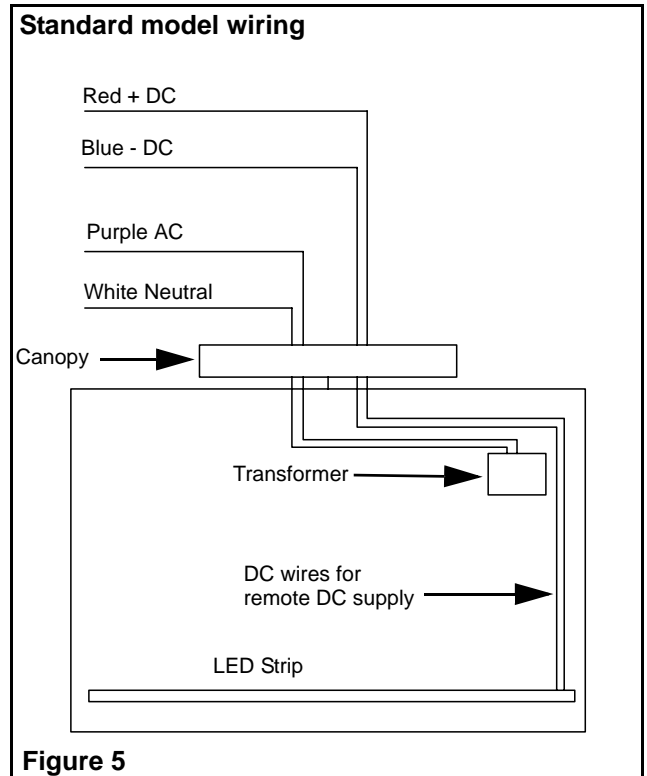

Figure 5
- h. Make the proper connection. In standard unit, the system can accept input voltages from 120 to 347 VAC. Therefore, connect the purple (hot) and white (common) leads to the building utility (see fig. 5). Make sure to insulate or cap unused wire. Feed the excess wire into the junction box.
- d. Make the proper connections. In standard units, the system can accept input voltages from 120 to 347 VAC. Therefore, connect the purple (hot) and white (common) leads to the building utility. Make sure to insulate or cap unused wire. Feed excess wire into the junction box (see fig. 5).
Refer to fig. 5 for AC & DC wiring.